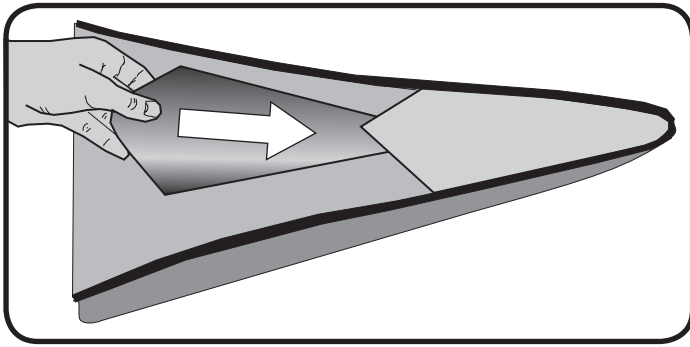

Figure 3. Plastic Bow and Stern Insert
- Finally, Insert Plastic Bow and Stern forms into pocket on bow and stern (*Figure 3*).